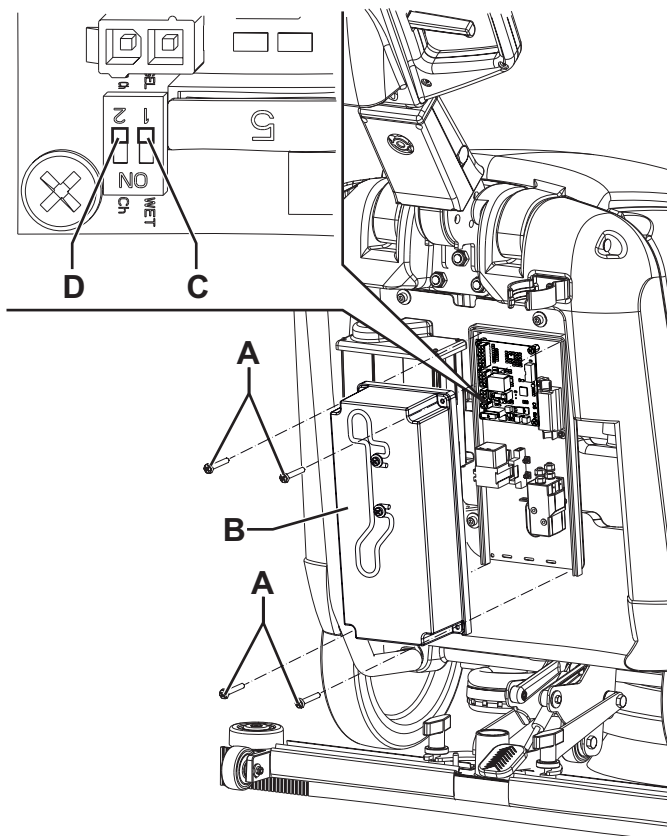

Figure 1
1. Disconnect the battery connector (29).
3. Remove the screws (A, Fig. 1), then remove the cover (B) of the electrical component box (25).
4. On the electronic board, turn the microswitch (C) to WET position.